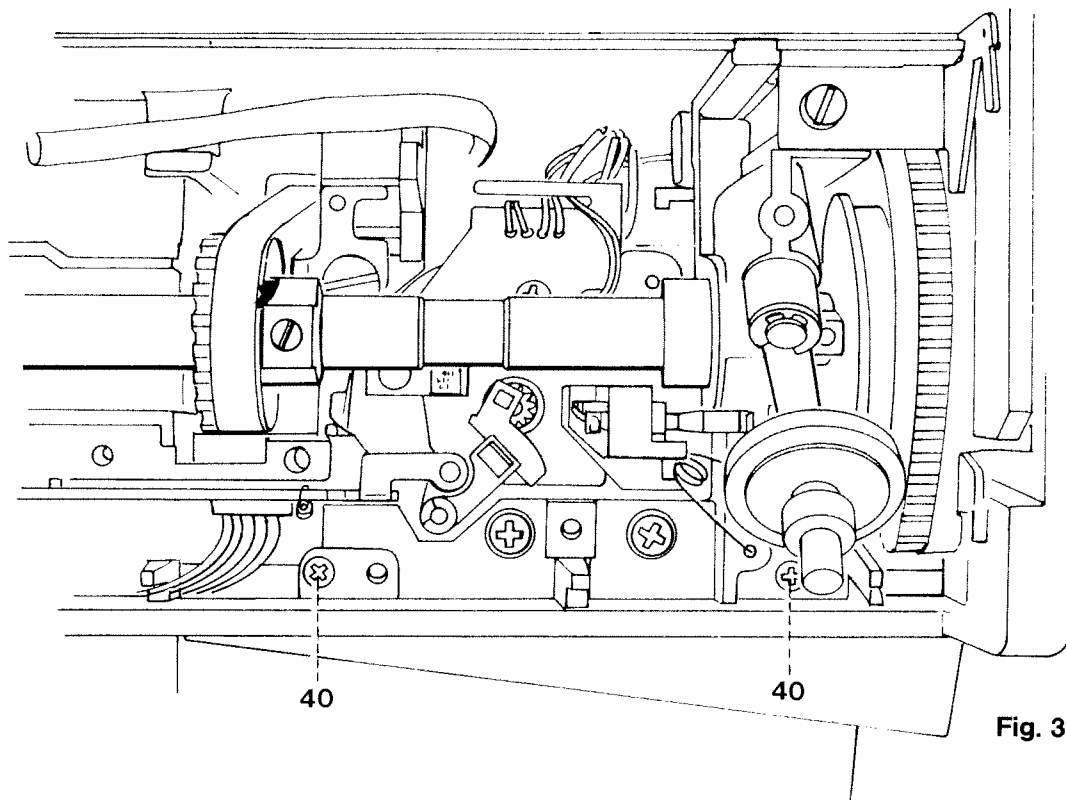

Fig. 34
- Unscrew the two screws 40 (Fig. 34).